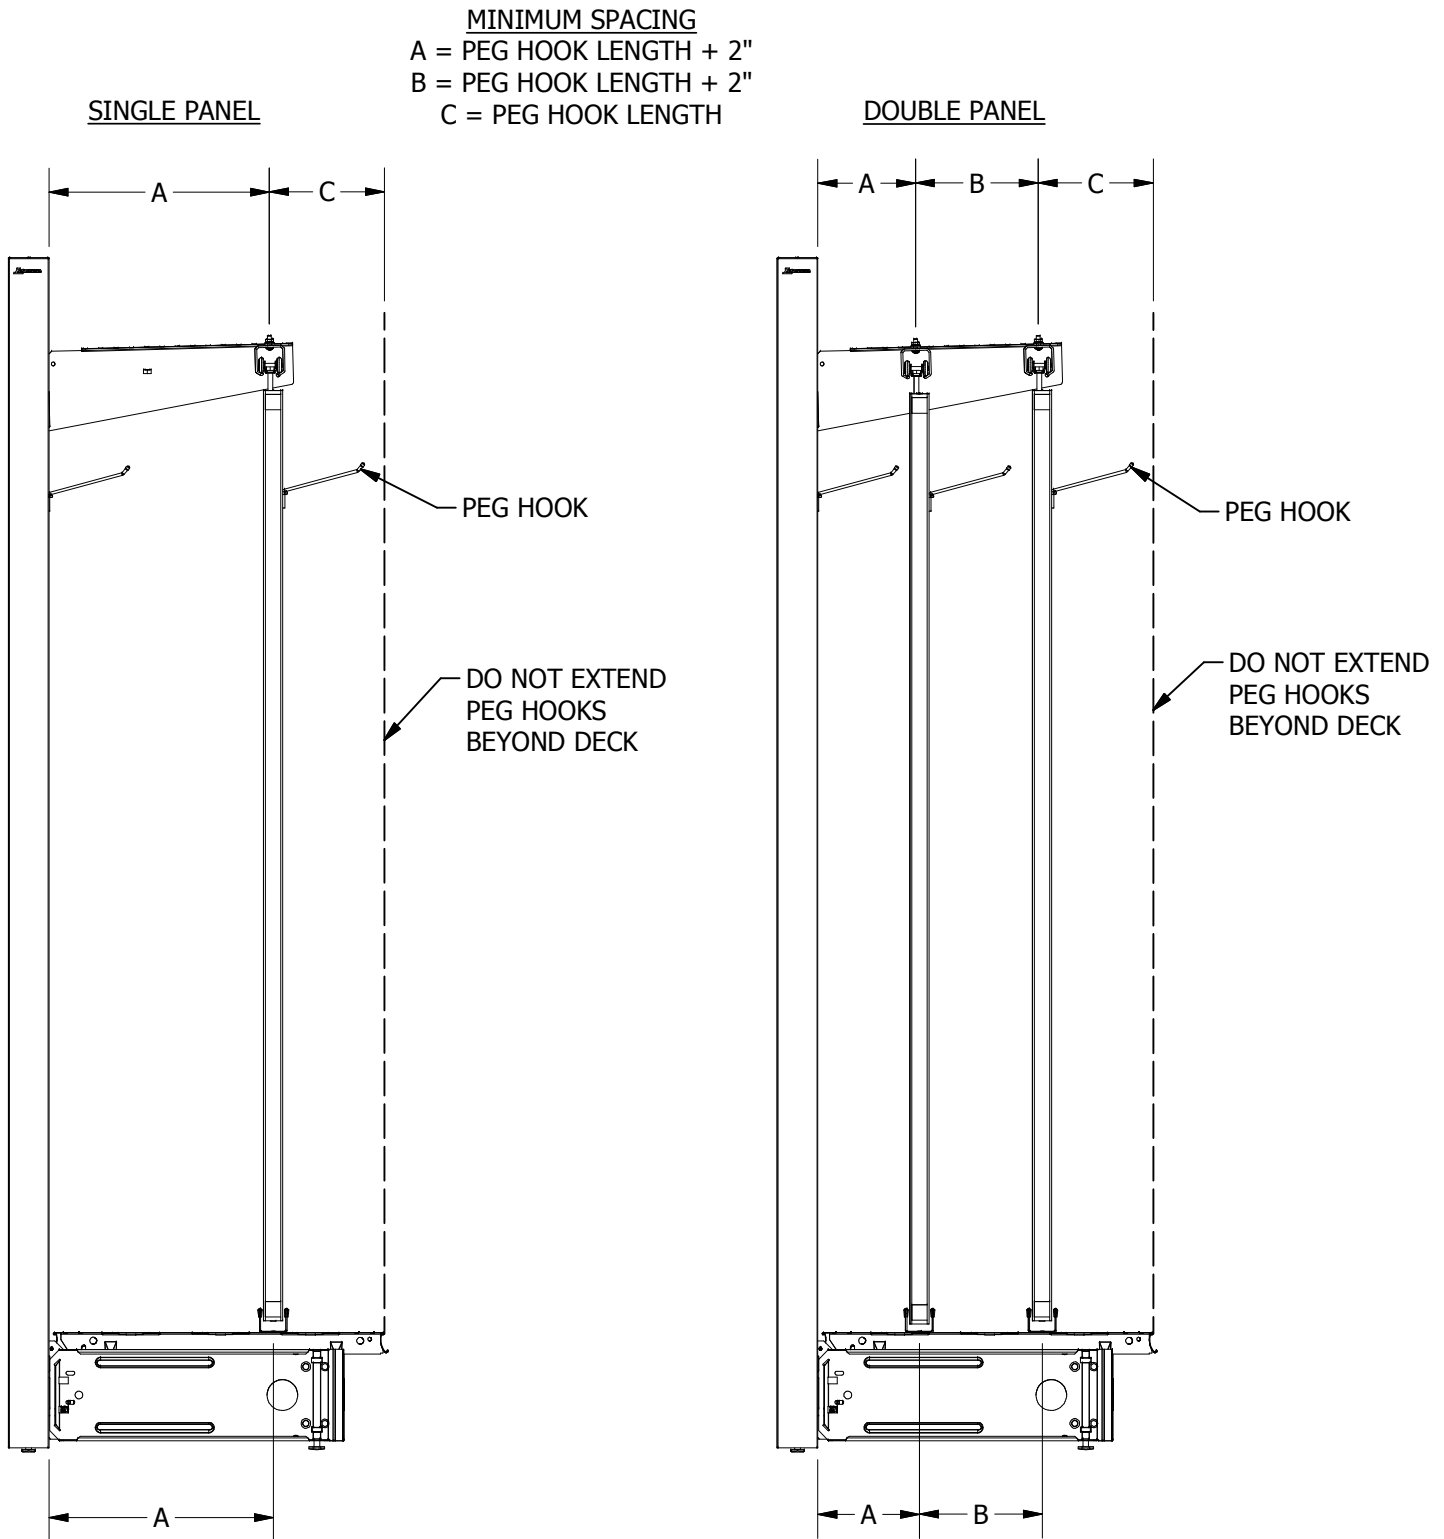

FIGURE 2
STEP 3: Determine locations for upper and lower tracks based on your specific layout and guidelines in FIGURE 2.